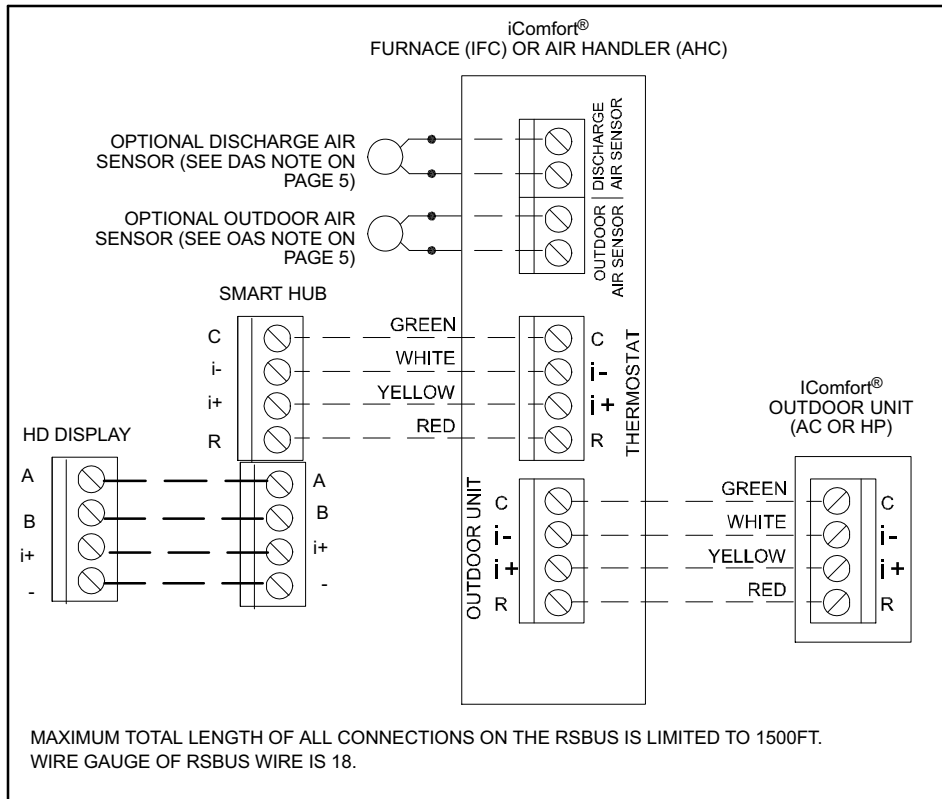

Figure 3. iComfort® Communicating System Wiring 1
1. Use the following procedure to install the Smart Hub controller. Refer to figures 3 through 11 for making control wiring connections.